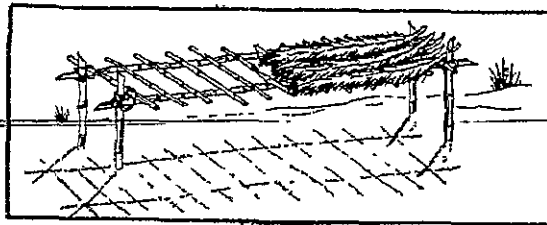

Figure 92. Bamboo bed.
c. Don't sleep on the ground. Use a hammock if you have one, or make one from your poncho or all purpose net. You can also make yourself a bed of bamboo or small branches covered with palm leaves (see figure 92). A parachute hammock may serve the purpose. You can make a crude cover from tree branches or ferns; even the bark from a dead tree is better than nothing.